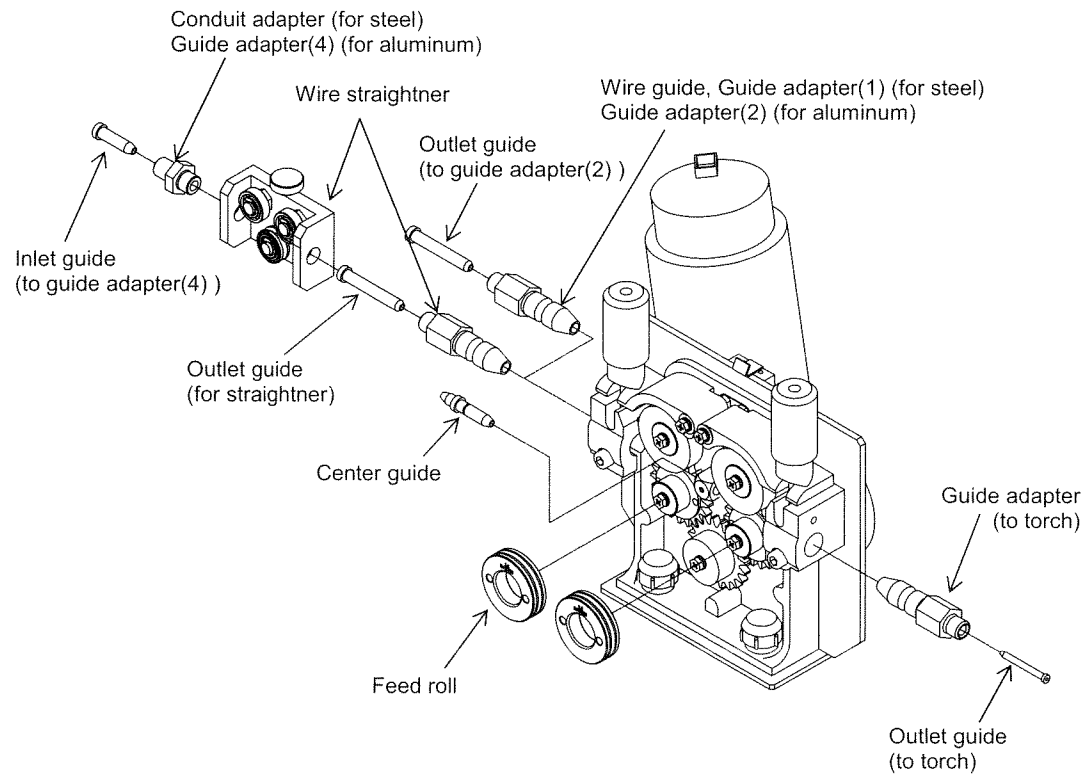

Fig.4 Optional Parts Assembly
(1) Feed roll・Pressure roll (Fig.4)
(4) Center guide (Fig.4)
(5) Torch connection part (Fig.4)
(6) Conduit connection part (Fig.4)
Parts for wire straightner (Fig.4)
(7) Aluminum kit (Fig.4)